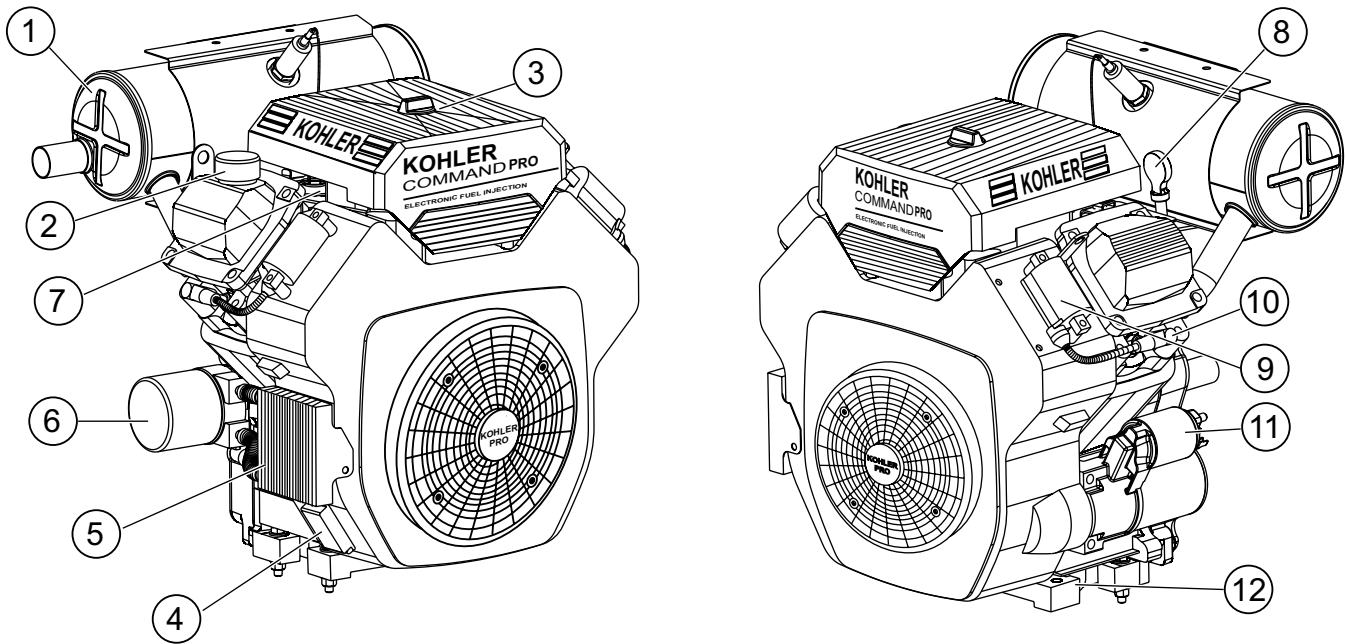

Figure 4. Engine Components
1. Pull the engine oil dipstick (Figure 4) from its holder.